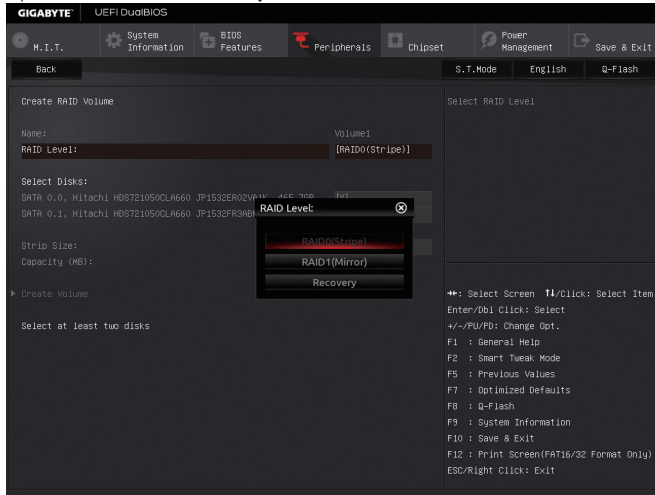

Figure 4
On the **Intel(R) Rapid Storage Technology** menu, press <Enter> on **Create RAID Volume** to enter the **Create RAID Volume** screen. Enter a volume name with 1~16 letters (letters cannot be special characters) under the **Name** item and press <Enter>. Then, select a **RAID level** (Figure 4). RAID levels supported include RAID 0, RAID 1, Recovery, RAID 10, and RAID 5 (the selections available depend on the number of the hard drives being installed). Next, use the down arrow key to move to **Select Disks**.